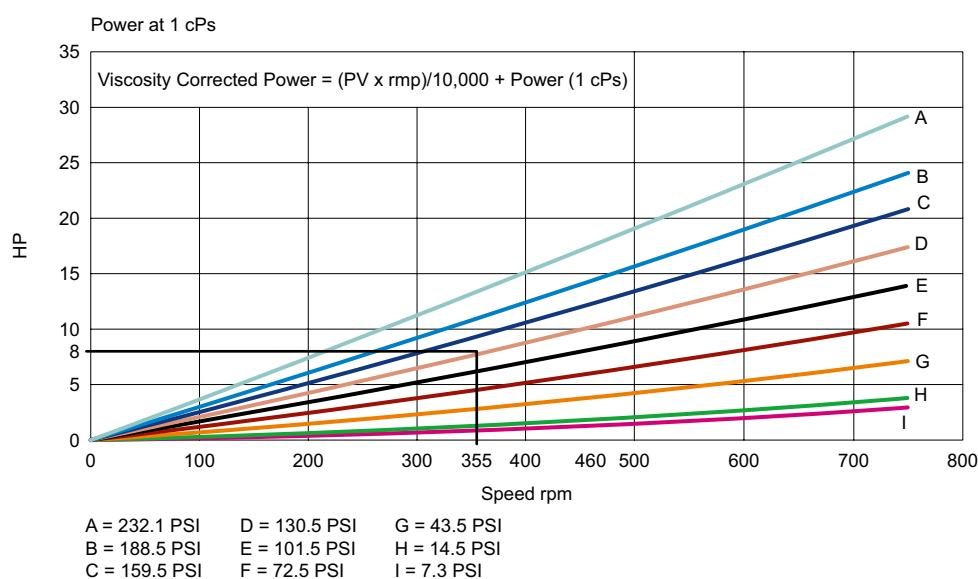

Fig. 7.6.3j
- Using the Power at 1 cPs curve (Fig. 7.6.3j), starting at the duty speed of 355 rpm, draw a line parallel to the y-axis, until it intersects the duty pressure line (130 PSI)